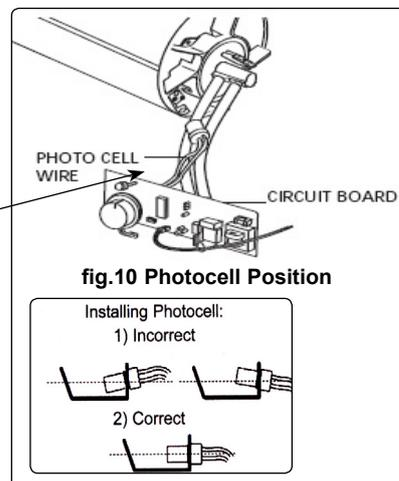

fig.10 Photocell Position
- 7.7.1. The AB heaters are fitted with a flame-out device (a photocell, see fig.10), which cuts the fuel supply should the flame be inadvertently extinguished, or if the unit overheats. If this happens, switch off the heater and unplug from the mains supply. Check the heater to determine the fault. In particular check that the air intake is not obstructed and that the internal fan is rotating freely. Wait a few minutes and restart the unit. If the problem persists contact your local Sealey Stockist.